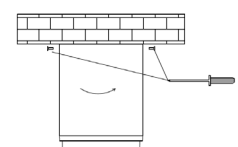

Fig. 5
5. Once the luminaire is wired, twist to lock the mounting plate and secure it with the screws. (Fig. 5)